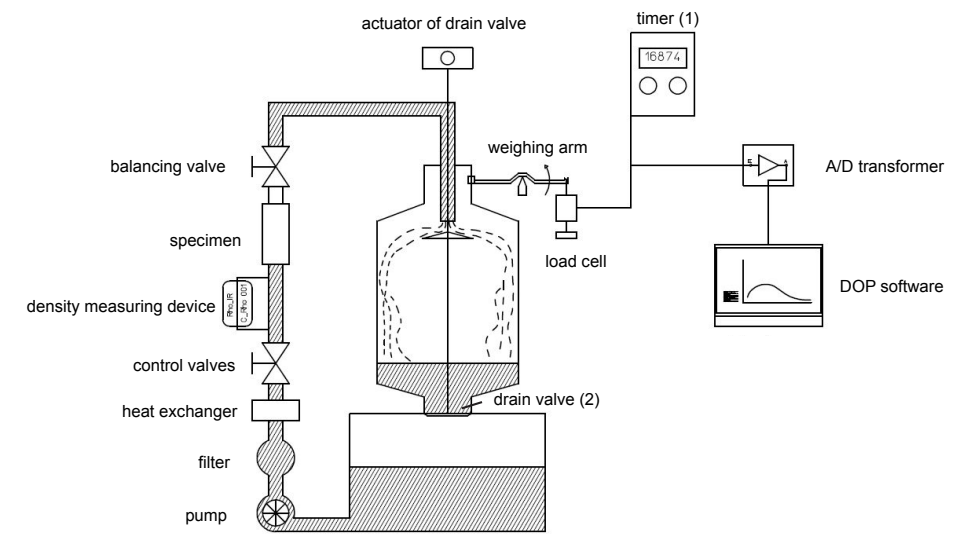

Fig. 8-4: Weighing system – taring phase
Pressing the start button sets the timer (1) to zero and closes the drain valve (2) on the weighing tank, launching the forerun/taring phase of the calibration process (Fig. 8-4).